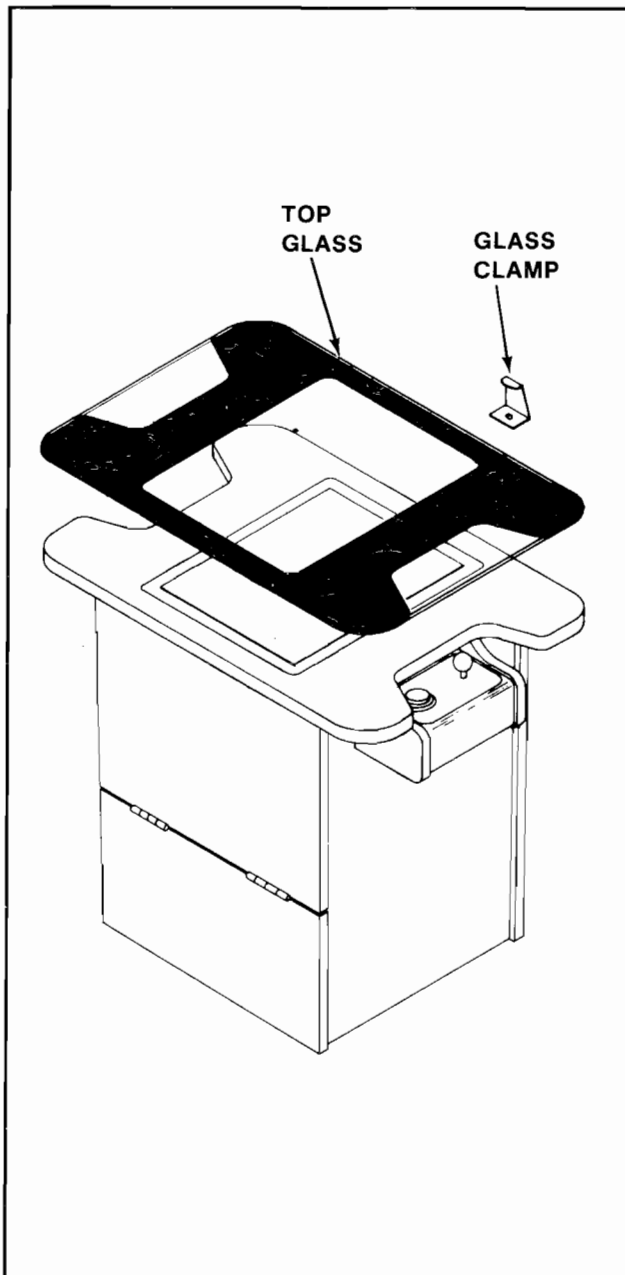

Figure 4-7 Removing the Top Glass & T.V. Bezel — Cocktail
3. COCKTAIL TABLE MODEL: See Figure 4-7.